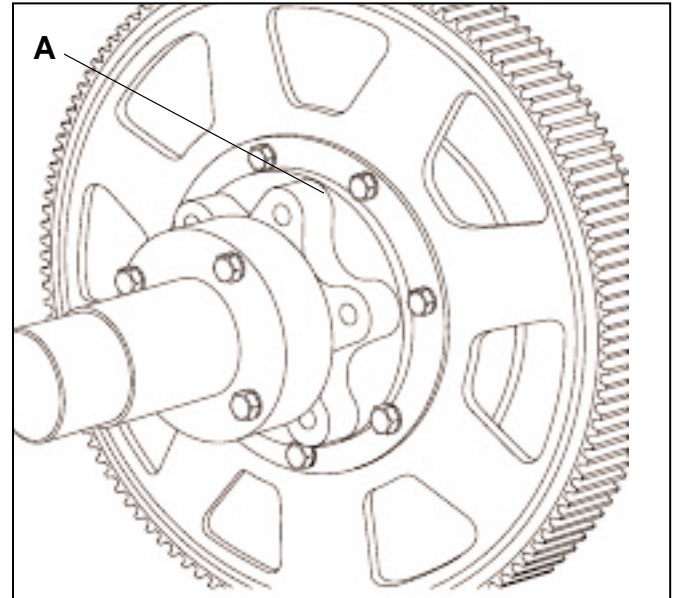

Figure 11.9 BULL GEAR
1. Unbolt bull gear from hub (bolt A in figure 11.9).